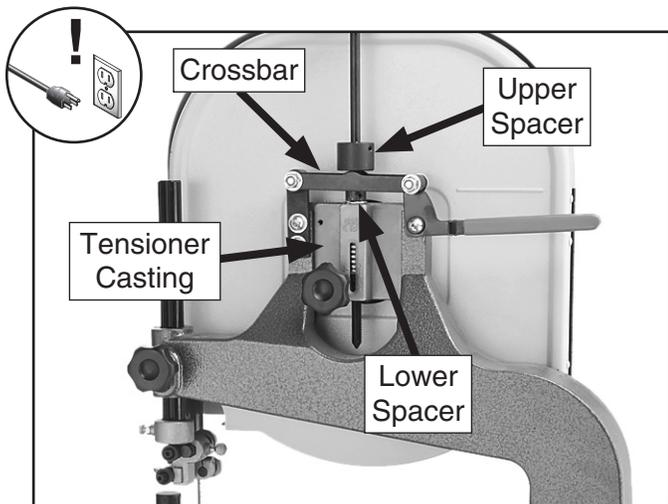

Figure 63. Locations of spacers and tensioner crossbar.
2. Move the blade tension lever up to the vertical position to release blade tension, then loosen the set screws on both spacers shown in **Figure 63**.